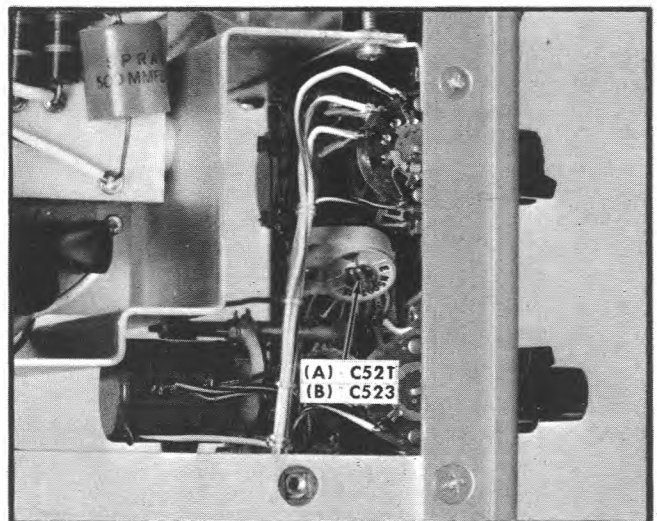
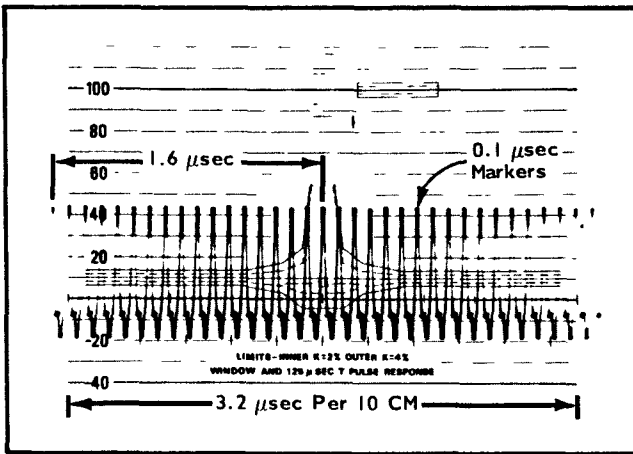

Fig. 6-19. Location of (A) C521 SN 101-1605 (B) C523 SN 1606 and up adjustment.
Fig. 6-20. Adjusting C521 for optimum $\times 25$ sweep linearity.
- e. Adjust the horizontal sweep magnifier capacitor (C523 or C521; see Fig. 6-19), primarily for sweep timing and secondarily for linearity. For correct timing, 32 time markers per 10 cm should be displayed (see Fig. 6-20). For checking linearity, display should show 8 time markers for any 2.5-cm portion of the display.